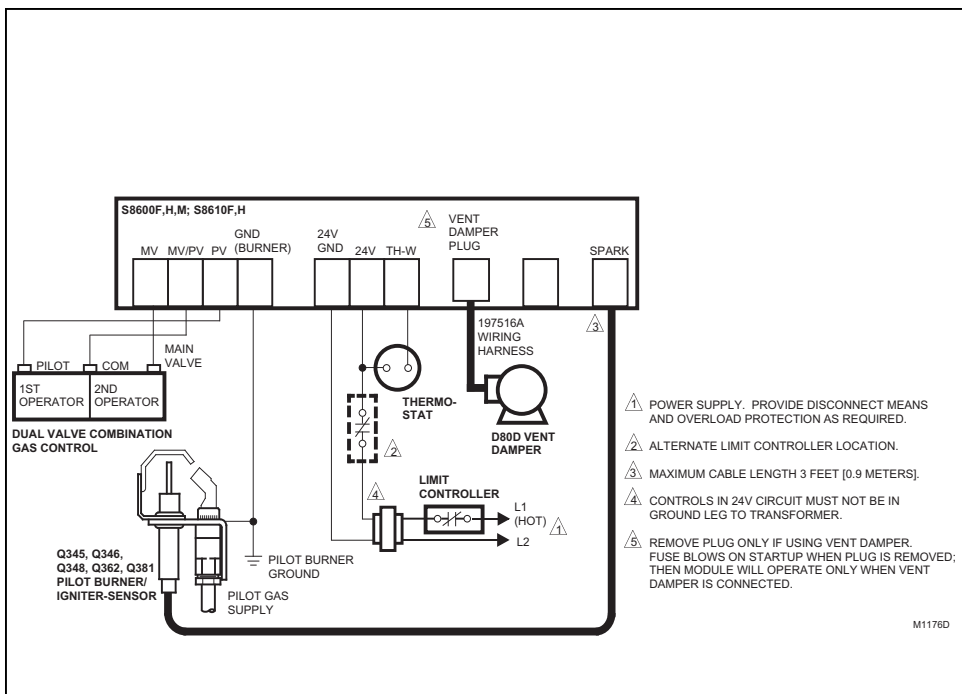

Fig. 2—S8600F,H,M; S8610F,H with a vent damper plug in a heating system with an atmospheric burner and a D80D vent damper.
• Fig. 2 shows S8600F,H,M; S8610F,H with vent